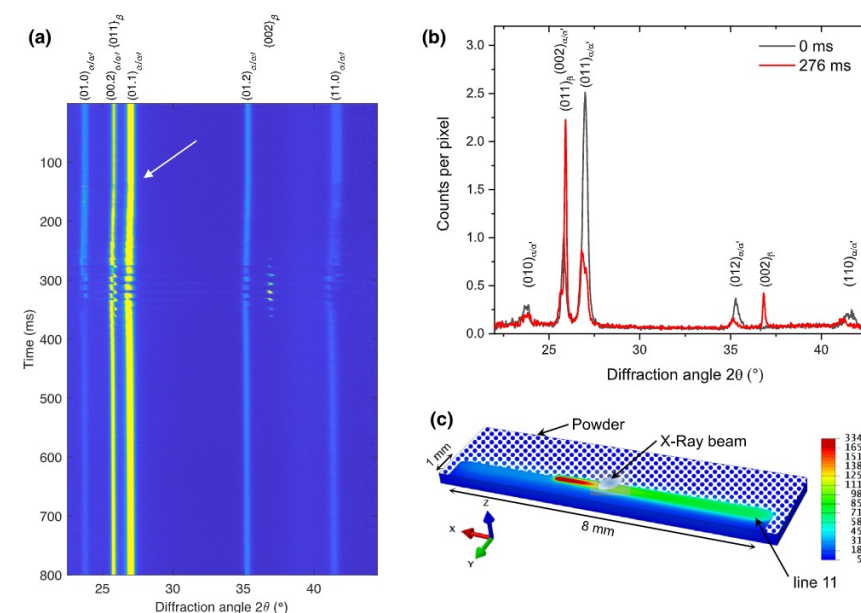

FIGURE 3
Figure 3. Integrated diffraction intensities of sulfur peaks for a Li-S cell cycled at C/8 and with a cathode prepared as a sulfur/Super P composite: (a) electrochemical plot showing the first cycle of the Li-S cell; (b and c) integrated intensity plots for (222), (026), and (006) Bragg peaks, which show the disappearance of crystalline sulfur by the end of the first discharge plateau and its reappearance by the end of the charge cycle. The blue arrows indicate the specific capacity regions over which the integrated intensities are plotted. The dashed lines emphasize where sulfur peaks disappear and reappear. The total discharge capacity is 755 mA h g⁻¹, and the total charge capacity is 707 mA h g⁻¹. Error bars on the integrated intensities were determined using Levenberg–Marquardt minimization.